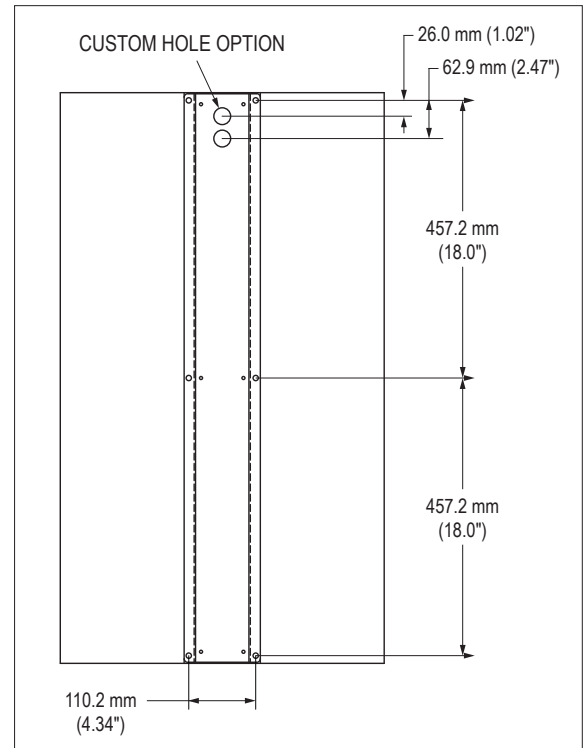

FIGURE 3 – REAR VIEW WITH OPTIONAL WB-ENCL-SS4 WALL MOUNTING BRACKET
- c. When mounting to a wall (WITH optional WB-ENCL2-SS4 bracket): First mount the bracket to the wall using the hole pattern shown in Figure 3. Then mount the enclosure to the bracket using the provided six 1/4-20 fasteners. Finally, route power and signal cables through the cable entry into the enclosure.